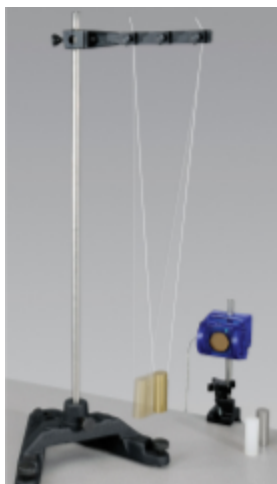

Figure 2: Suspend the bob in a “V” shape, with the motion sensor facing the bob.
3. Position the Motion Sensor in front of the pendulum so the brass colored disk is vertical and facing the bob, aimed along the direction that the pendulum will swing (**Figure 2**).